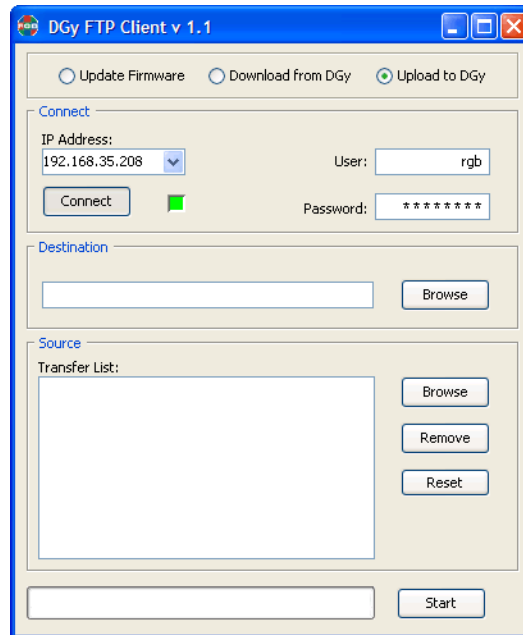

Figure 4-9 FTP Upload Dialog Box
3. Click the **Upload to DGy** radio button to display the FTP upload options as shown in Figure 4-9.